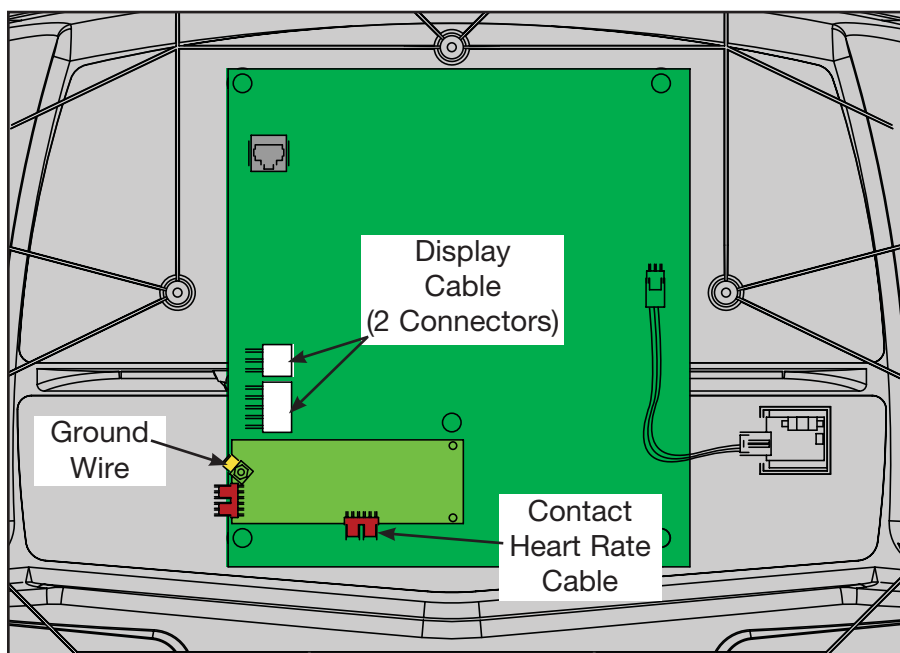

Figure 8
- C.** Connect these cables into the display board: the display cable (2 connectors), the contact heart rate cable and the ground wire. See Figure 8.
**D.** Check to see that all of the cables are connected firmly in their proper place. See Figure 8.